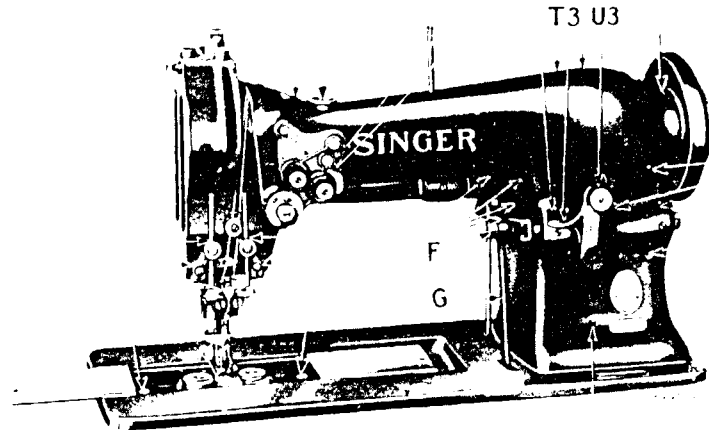

Fig. 2. Oiling Points at the Front of the Machine
Oil should be applied at each of these places designated by arrows in Figs. 2, 3, 4 and 5. When the machine is in continuous use, it should be oiled at least twice each day.
The length of stitch is regulated by moving the end of the connection (G, Fig. 2) which is fastened by the hexagon nut (F, Fig. 2) in the slide on the upright part of the arm. To increase the length of stitch, loosen the hexagon nut (F) and move the connection away from you in the slide. To shorten the stitch, move the connection toward you in the slide. When the desired length of stitch has been obtained, tighten the hexagon nut (F). Care should be taken to see that the length of stitch is adjusted according to the material which is being sewn. A stitch that is too short will not leave a sufficient number of threads between the openings in fine material. If the stitches are made too close together, they may be cut by the piercer.